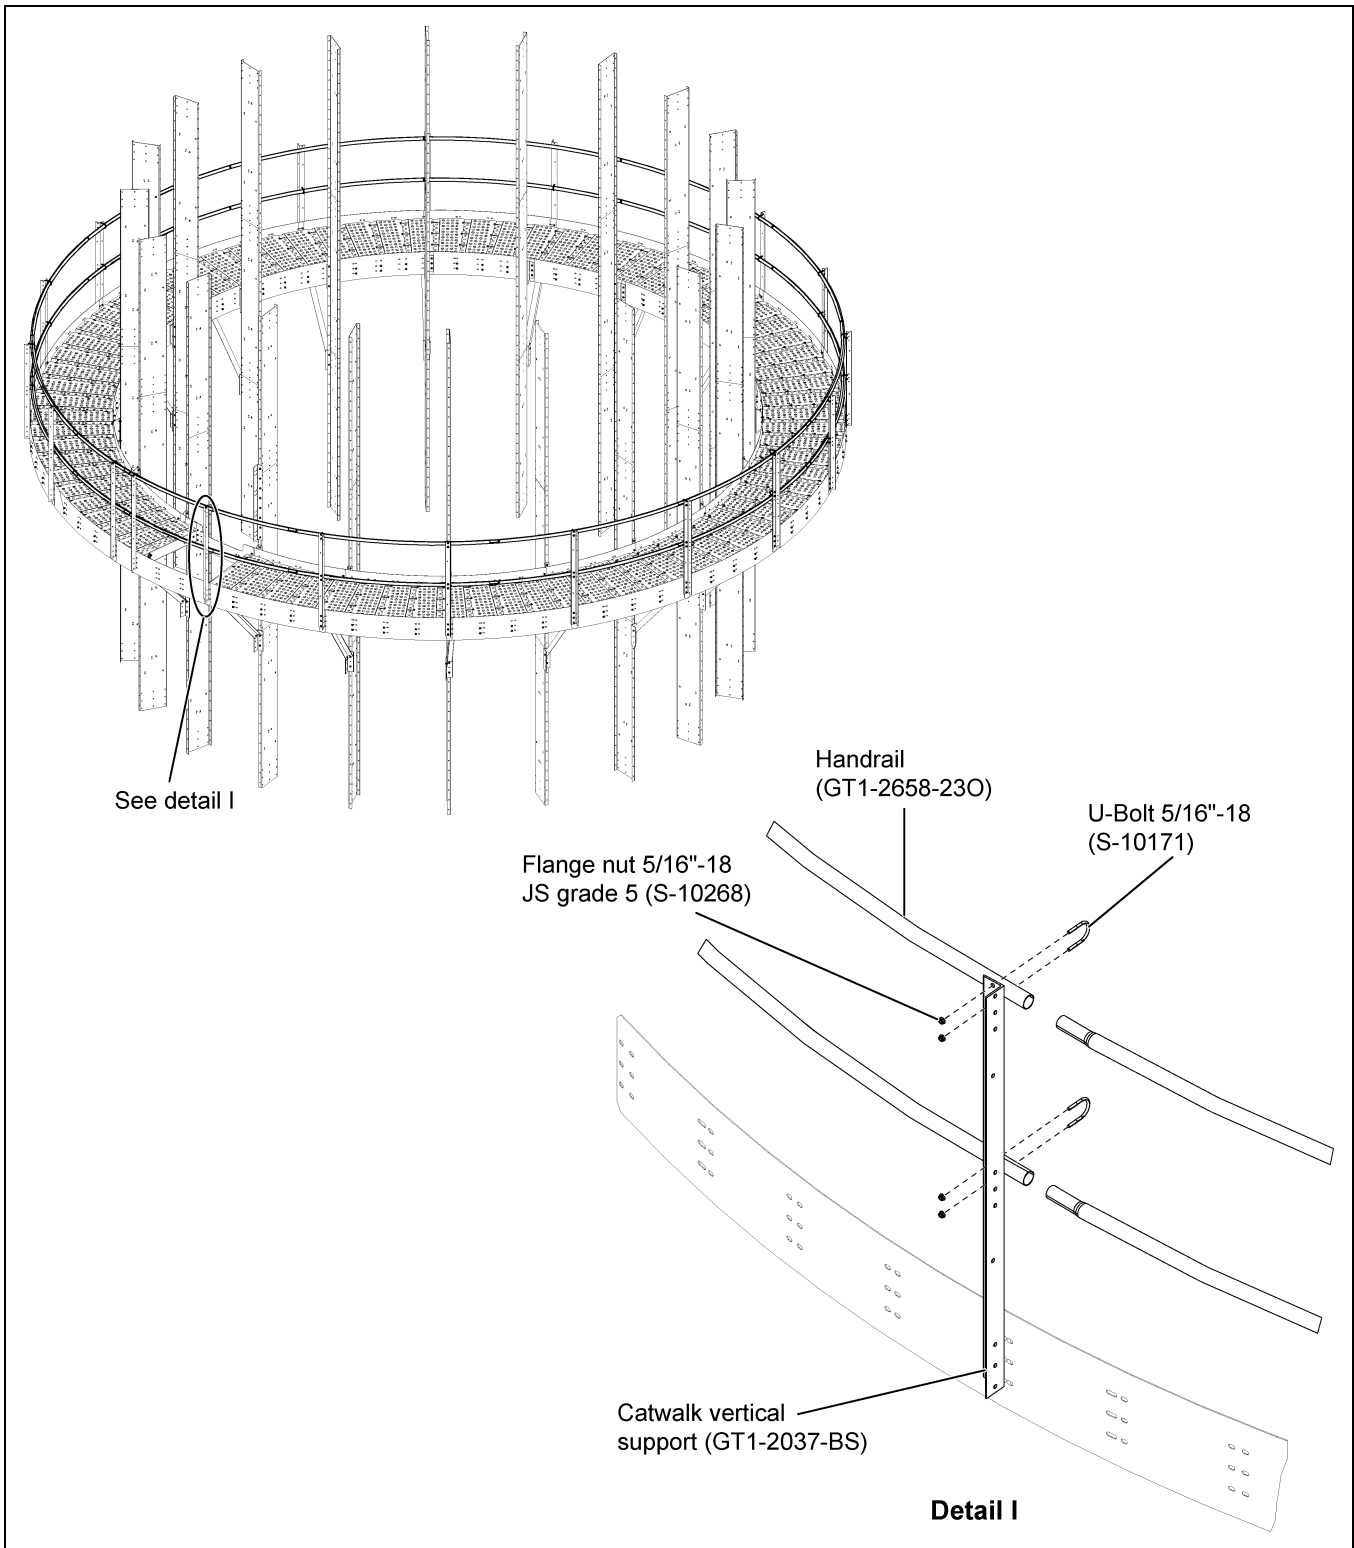

Figure 4U
1. Install the handrail (GT1-2658-230) to the catwalk vertical support (GT1-2037-BS) using 5/16"-18 ZN U-bolts (S-10171) and 5/16"-18 JS grade 5 nuts (S-10268) to tighten the handrail with vertical post. (See Figure 4U.) (See Page 29.)